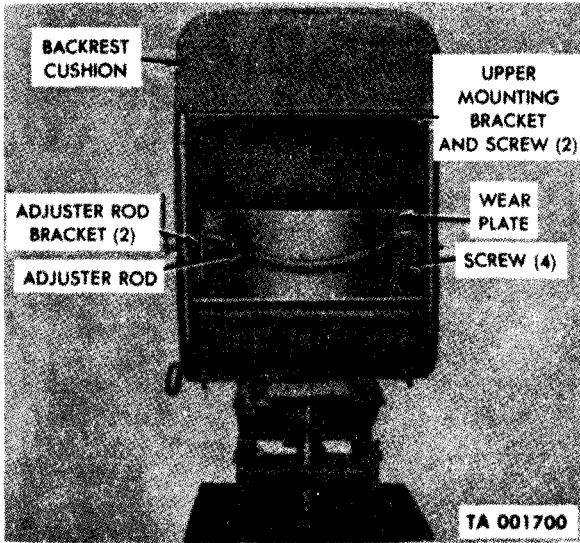

Figure 2-219.5. Driver's seat backrest cushion removal and installation
a. *Removal (fig. 2-219.5).* Remove seat assembly from cab (2-239.1a above). Remove four screws securing backrest cushion to adjuster rod brackets and remove wear plate. Remove four screws securing upper mounting brackets to backrest cushion and remove cushion from seat frame.
b. *Installation (fig. 2-219.5).* Position cushion on seat frame and secure to frame with two upper mounting brackets and two screws. Position wear plate between cushion and adjuster rod brackets. Secure adjuster rod brackets and wear plate to cushion with four screws. Install seat in cab (2-239.1b above).